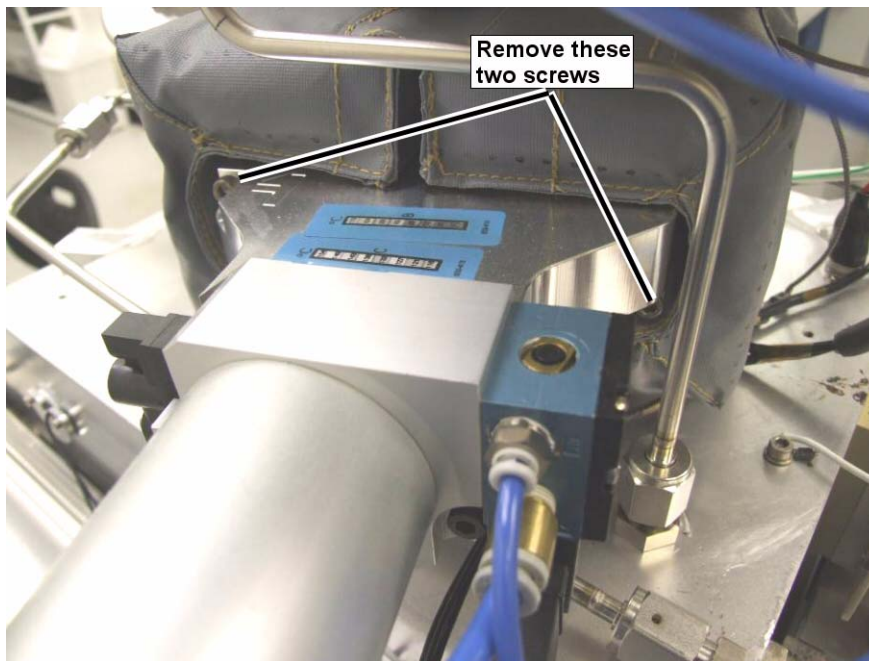

Figure 7-1 Removing the ICP gate valve
- 4 Unscrew the two screws that secure the ICP gate valve in place (see Figure 7-1).
- 8 Refit the two fixing screws (see Figure 7-1).